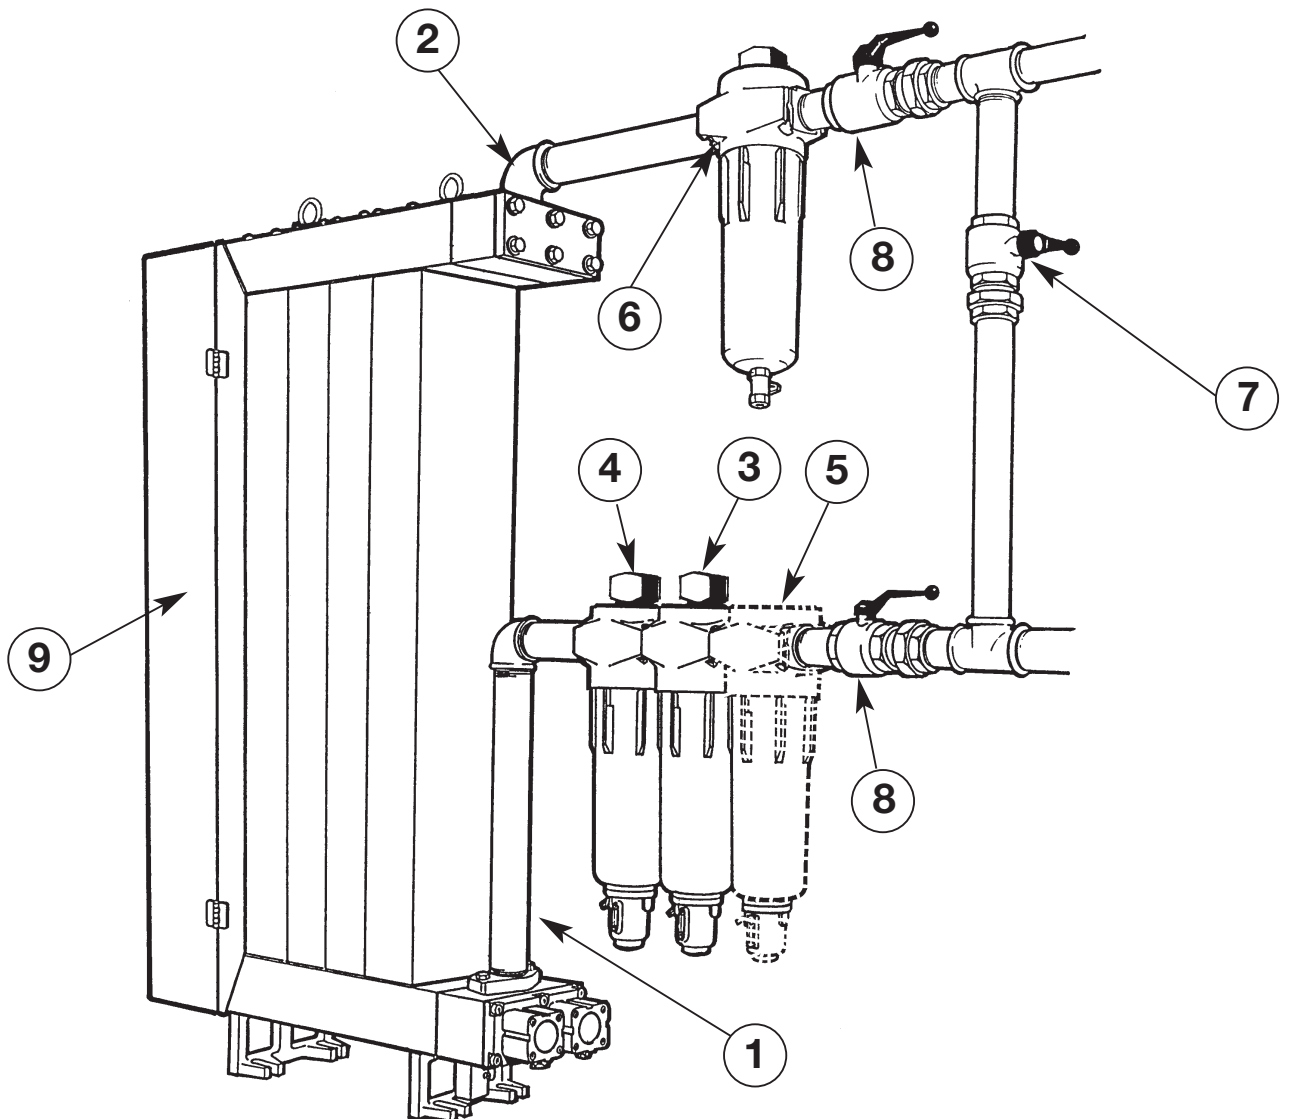
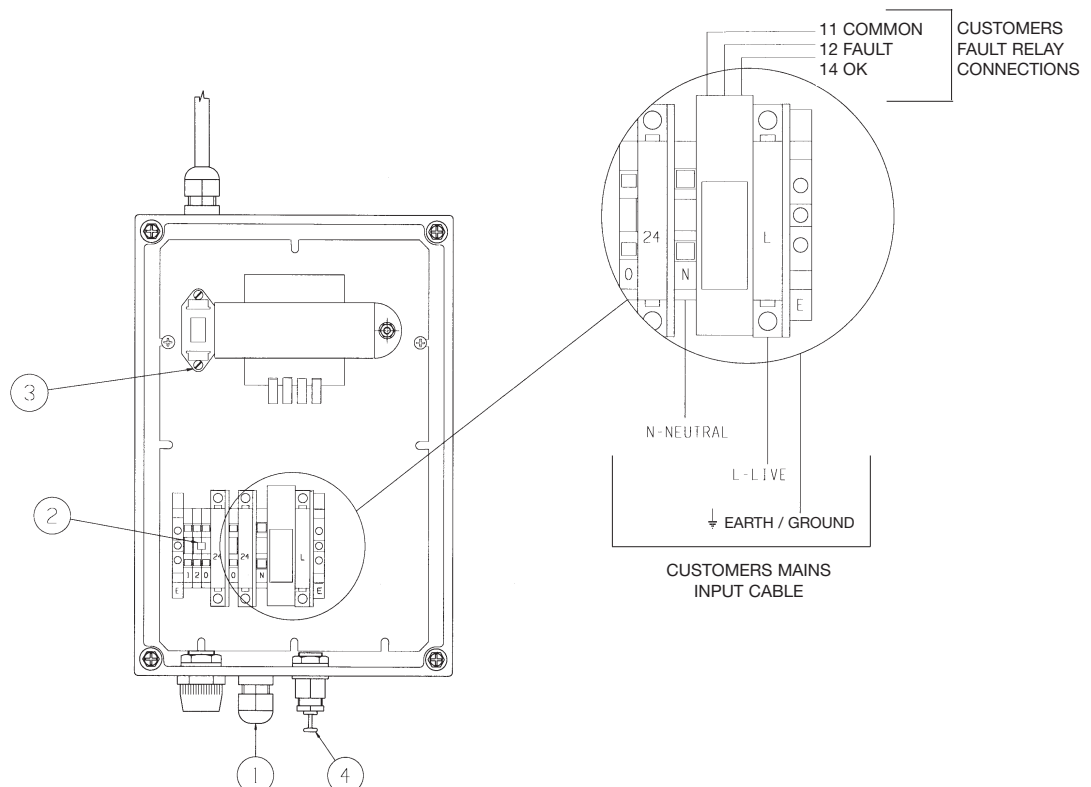
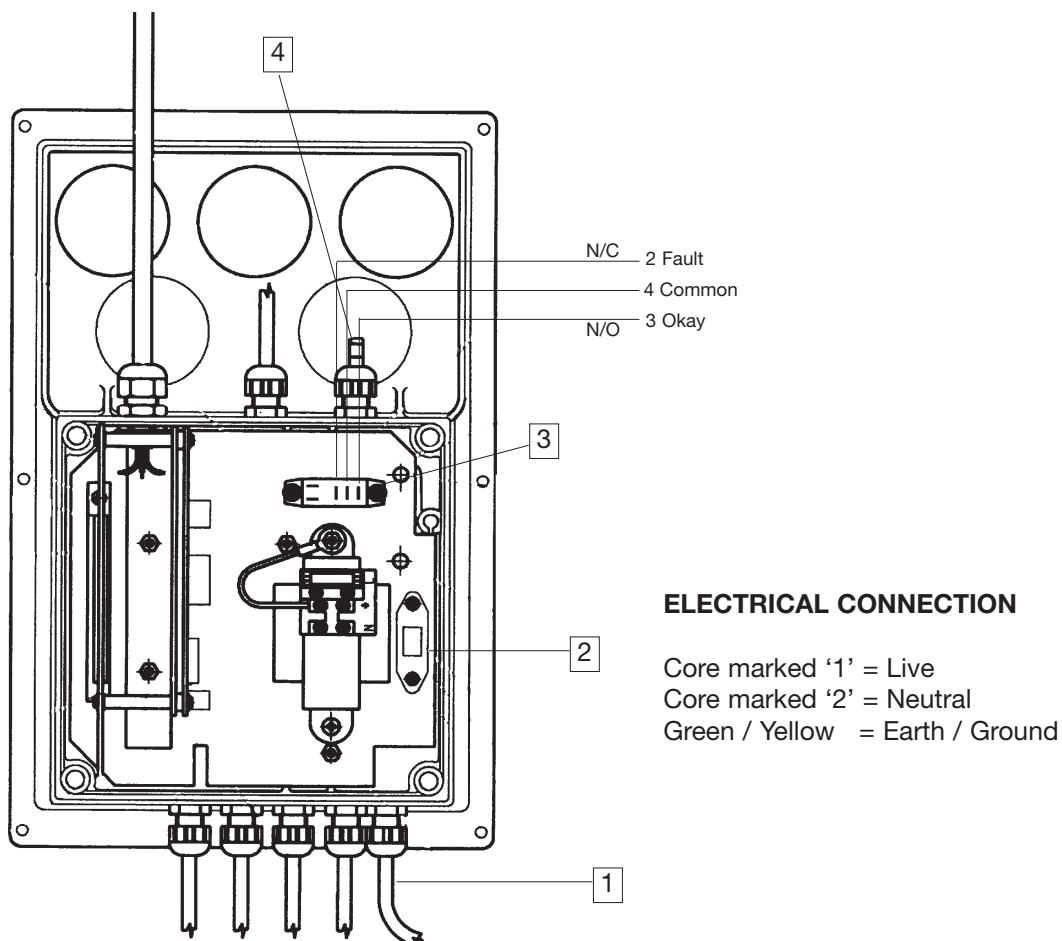

Figure 2 - TYPICAL SINGLE BANK INSTALLATION
Figure 3 - TRANSFORMER ENCLOSURE - DXE MODELS
Figure 4 - CONTROL ENCLOSURE - DXS MODELS
C) INSTALLING YOUR SYSTEM PNEUMATICALLY (See Figure 2)
ELECTRICAL CONNECTION (See Figure 3)
Open the control shroud (9 - Figure 2) and locate the transformer enclosure (See Figure 3 for general appearance). Remove the four corner screws which retain the clear lid and remove the lid
Connect the cables to the terminals (2) as shown in Figure 3 and ensure the voltage selector switch (3) displays the correct voltage. Tighten the cable gland (1) and replace the box lid.
For remote fault indication a volt free relay is fitted. To access this feature feed the cable through the shroud support as above and into the transformer enclosure via the unused cable gland (4) after removing the blanking plug. The connections to the relay are shown in Figure 3. In normal operation, the relay is permanently energised and will de-energise in the event of a power failure or fault condition. The relay is designed to provide a fault signal and is rated at 250VAC, 1A maximum.
ELECTRICAL CONNECTION (See Figure 4)
Open the control shroud (9 - Figure 2) and locate the control enclosure (See Figure 4 for general appearance).
Open the control shroud (9 - Figure 2) and locate the Contactor Enclosure (See Figure 5 for general appearance) and identify the Miniature Circuit Breaker (3) (MCB). Remove the MCB box cover.